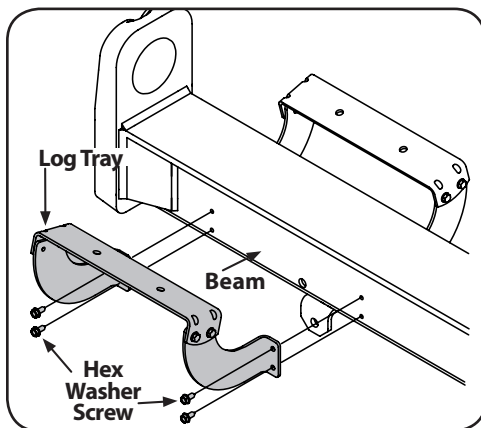

Figure 3-7
18. Reattach the log tray to the control valve side of the beam, aligning the holes in the tray with the holes in the beam and re-installing the hardware removed in step 15. See Figure 3-7.